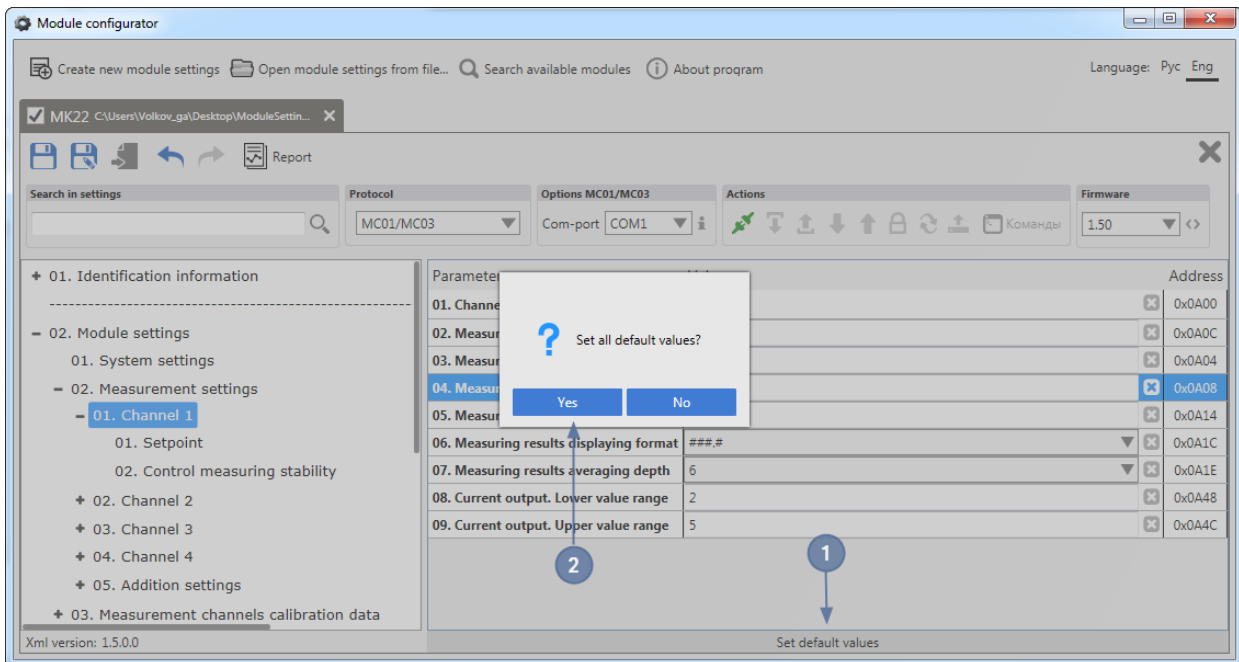

Figure 21 - Parameter reset
Parameter values reset is available in configuration of group with parameters. To reset parameter values of the current selected group, press **Set default values** button (Figure 21, item 1) and confirm reset by pressing **Yes** button (Figure 21, item 2). Upon that the parameter values will be reset to 0.